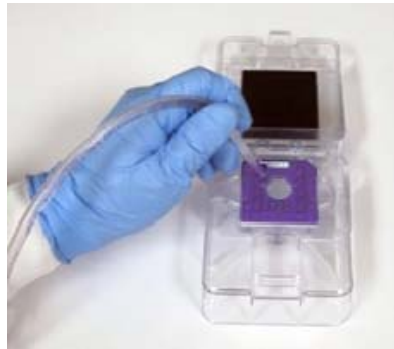

Figure 4. Using a vacuum to aspirate the chip wells is more effective than using a pipette
- 2 Use a pipette tip attached to a vacuum line to thoroughly aspirate all fluid from the chip wells (see Figure 4). For details on how to set up a vacuum line, see page 42.